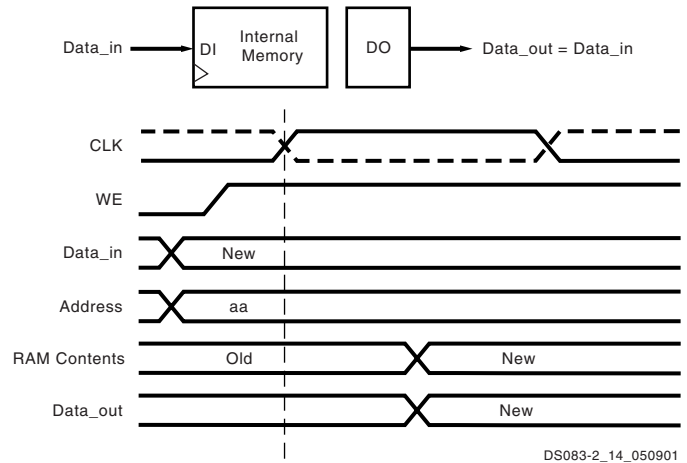

Figure 39: WRITE_FIRST Mode
The WRITE_FIRST option is a transparent mode. The same clock edge that writes the data input (DI) into the memory also transfers DI into the output registers DO, as shown in **Figure 39**.